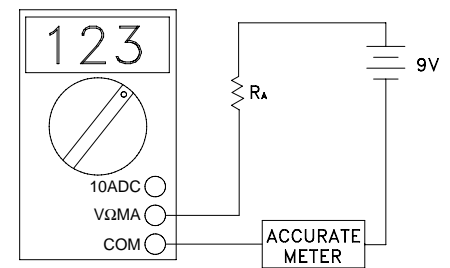

Figure 5-3
- 1) Set the range switch to 200 μ A and connect the meter as in Figure 5-3. With RA equal to 100k Ω the current should be about 90 μ A. Compare the reading to a known accurate meter.